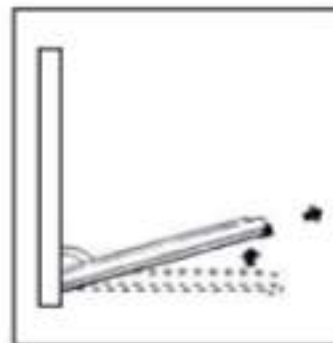

Fig 2
2. Now, by slightly closing the door, you can lift it by pulling the "A" hooks as shown in Fig 2.